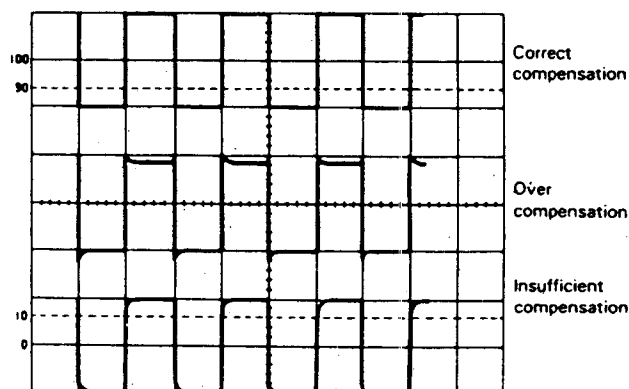

Fig 28. Probe Compensation Adjustment
4. Adjust compensation trimmer on probe for optimum square wave (minimum overshoot, rounding off, and tilt). Refer to Fig 28.